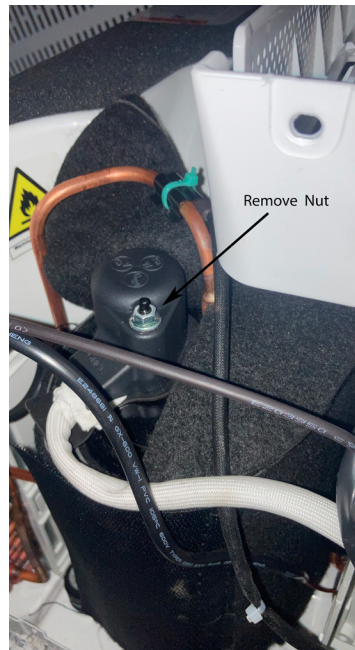

Figure 608
6. Remove Compressor Cap (5/16 nut) and disconnect wires from Compressor. See Figure 608.